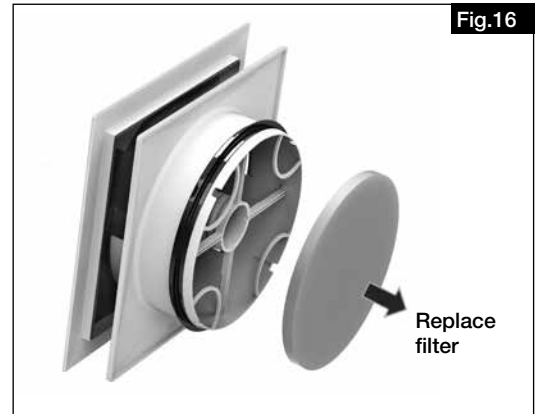

Fig.16
2. Remove filter and replace with new filter (see Fig. 16).